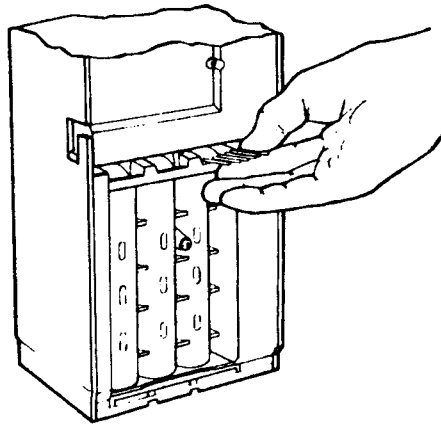

Figure 4: Manually filling the Coins Tubes
- Fill the coin tubes to the desired levels by inserting coin into the loading slots located on the coin tube front (Figure 4 located on the next page).